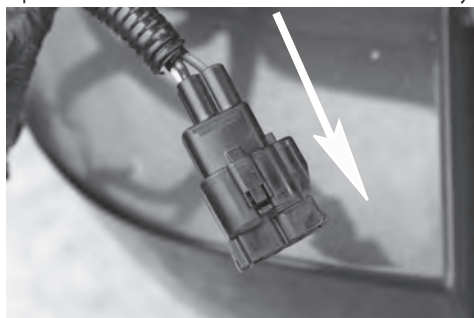

Figure 2
4. Press down on Female 4-Way connector lock and pull in direction shown in **Figure 2** to separate from RV harness.